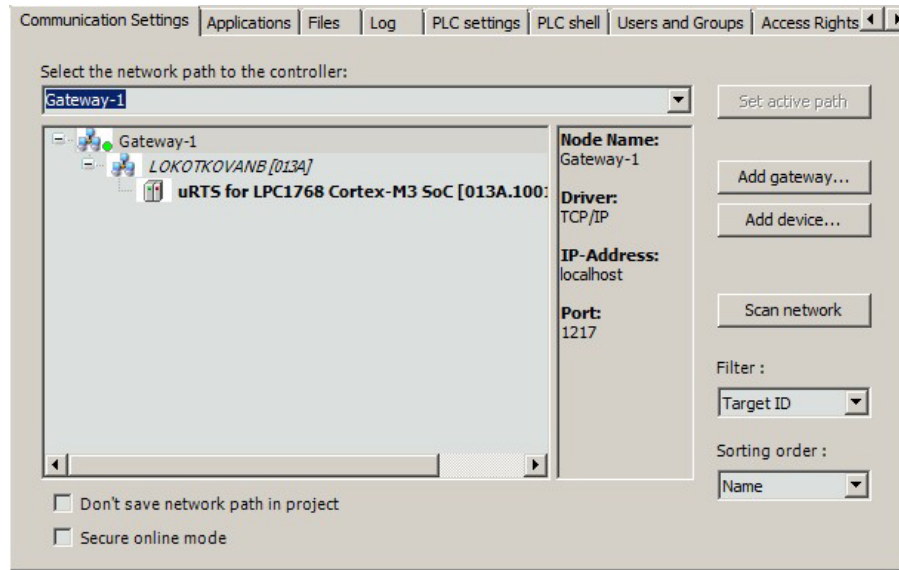

Figure 8. LPC1768-Stick target node in the network tree
- Double-click on *Device (LPC1768 Cortex-M3 SoC)* in the **Devices** tree, select *Gateway-1* in the **Communication Settings** pane and click on **Scan network**. The *uRTS for LPC1768 Cortex-M3 SoC* node will be displayed in the network tree as shown in Figure 8.